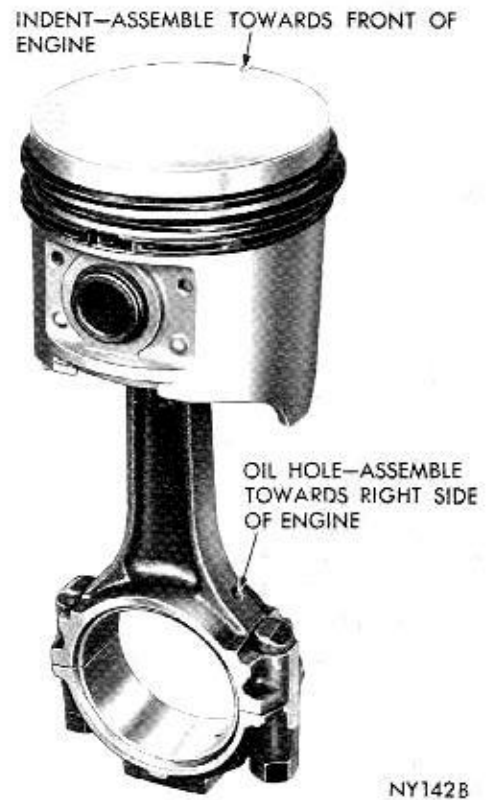

Fig. 36—Connecting Rod Oil Hole
(6) Place piston, with "Notch Front" up, over the pilot so that pilot extends through piston pin holes.
(7) Position connecting rod over the pilot which extends through piston hole. **The oil hole in connecting rod must point toward the direction shown in Figure 36.**